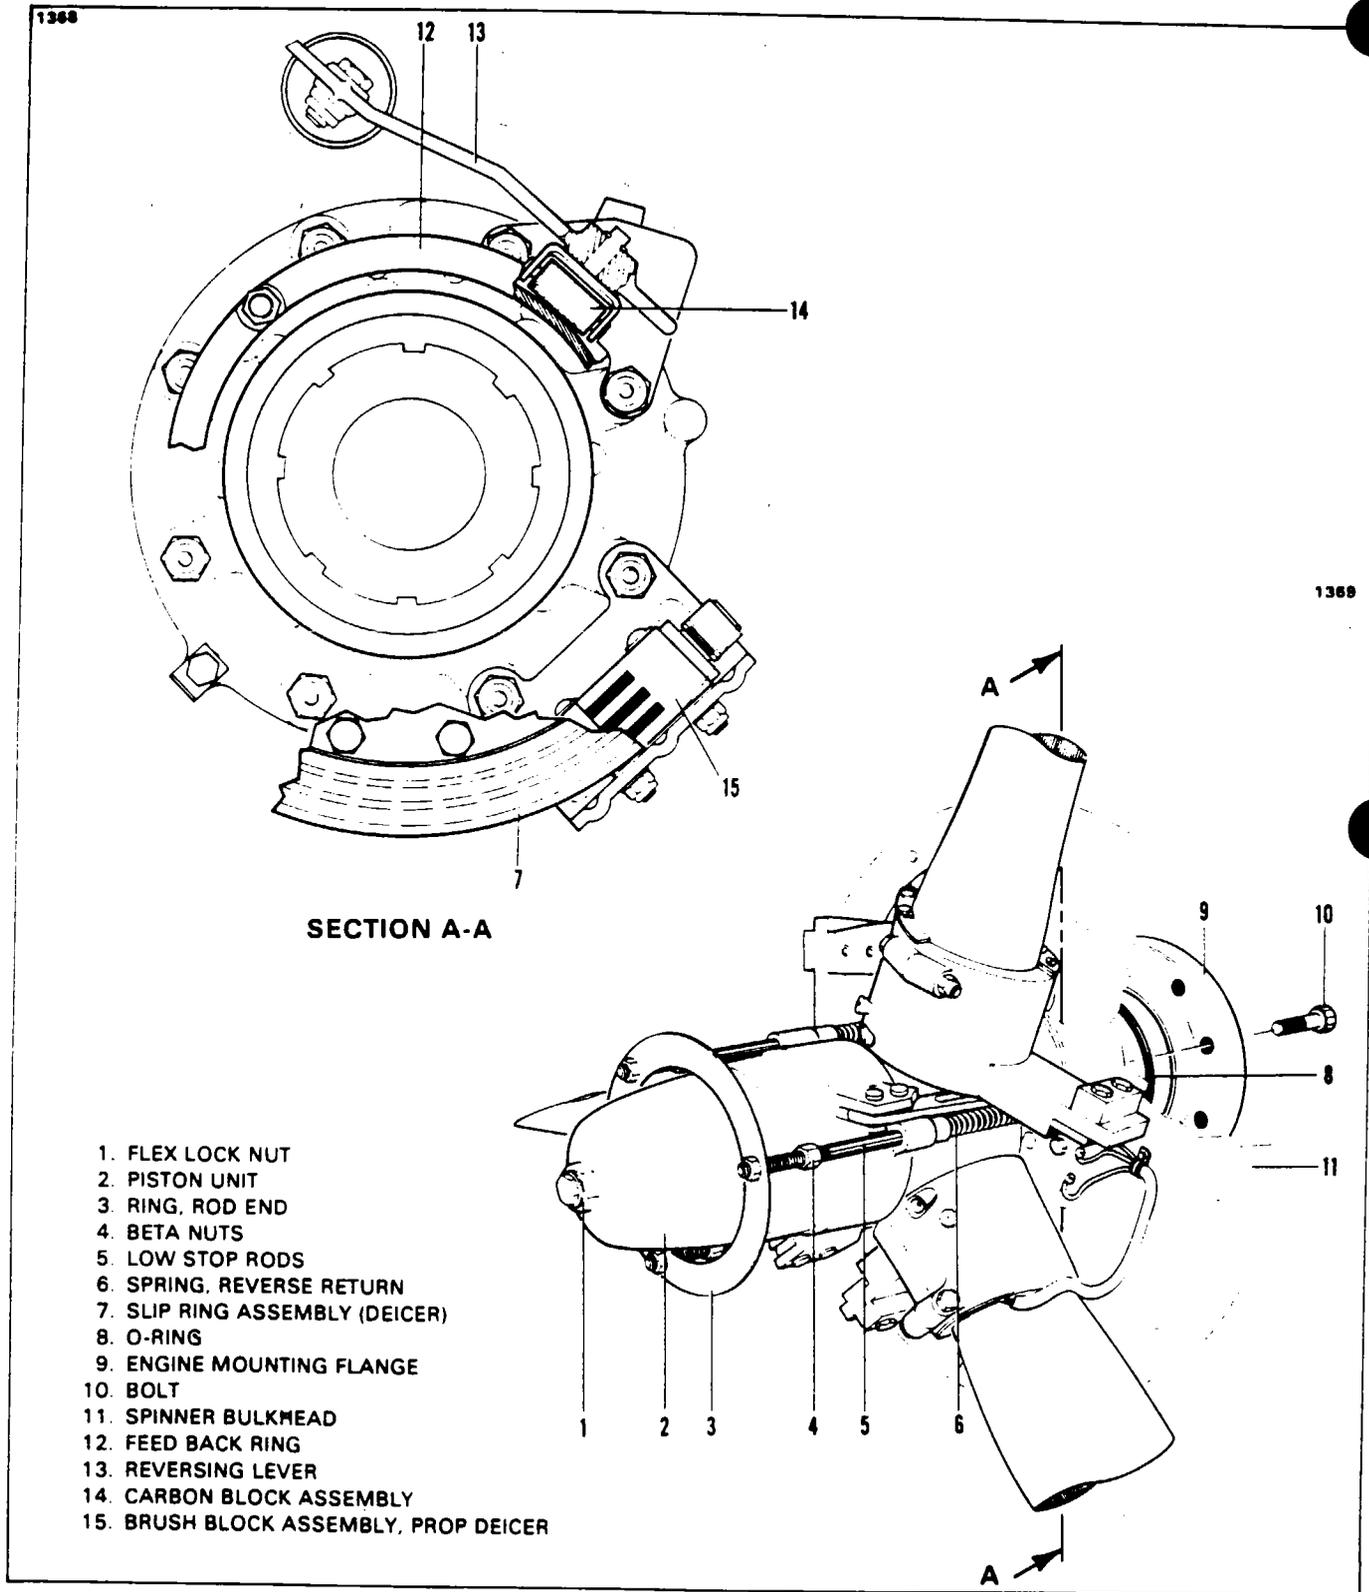

Figure 61-1. Propeller Installation
**REMOVAL OF PROPELLER.** (Refer to Figure 61-1.)
**INSTALLATION OF PROPELLER.** (Refer to Figure 61-1.)